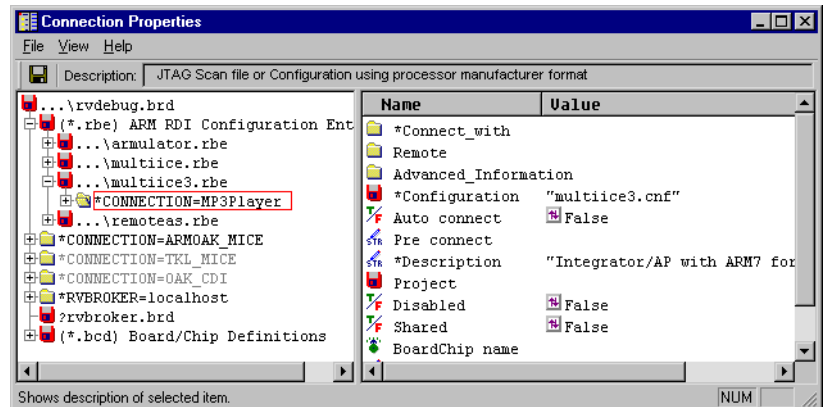

Figure 3-19 The MP3Player connection properties
9. Right-click on the new MP3Player connection and select **Connection Properties...** from the context menu. This displays the Connection Properties window with the new connection expanded (Figure 3-19).